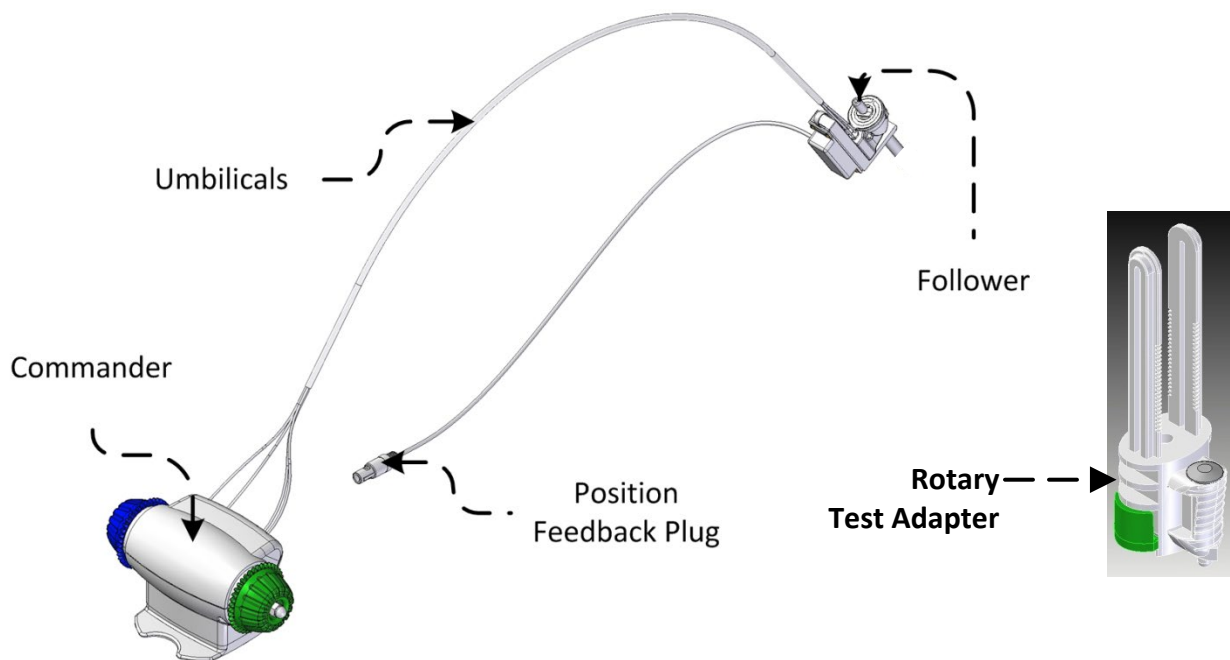

Figure 1.8: Robotic Probe Driver Components
The Robotic Probe Driver (RPD) is mounted to the NeuroBlate System Interface Platform (IP) and connected to an appropriate skull bone anchor. The RPD Position Feedback Plug (Figure 1.8) connects to the Interface Platform to communicate the Laser Delivery Probe position in the brain to the system user interface. The RPD rotates or translates (extends or retracts) the NeuroBlate Laser Delivery Probe. The RPD provides linear translation of up to 40 mm and total rotation of 340°.
The RPD is comprised of two components: the Commander and the Follower (Figure 1.8) connected by an umbilical cable. A Rotary Test Adapter is included with the RPD and is used during Self-Test to simulate the attachment of a Laser Delivery Probe during the procedure.